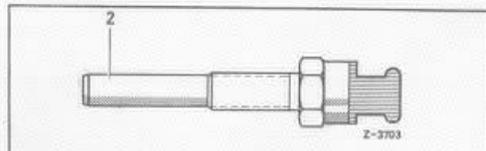

FIG. 18
5. As final correction measure, an AIR TEMPERATURE SENSOR (Fig. 18) located in the air filter housing causes a fuel enrichment up to an air temperature of 70 F. . The sensor works on the same variable resistance principle as the water sensor.